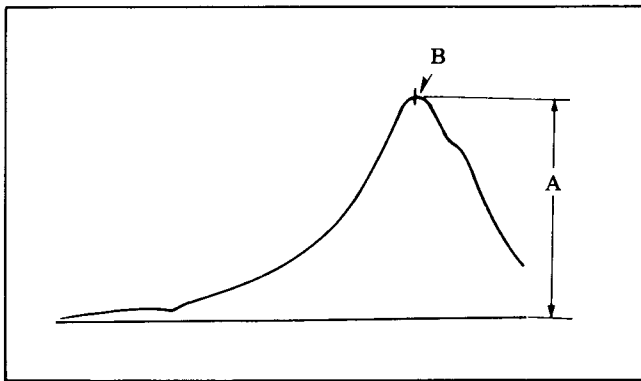

Fig. 30
7. Adjust T703 so that the marker position at B becomes peak point as shown in Fig. 30.